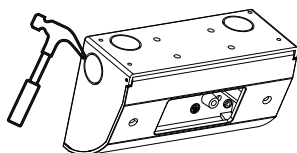

Fig. 1
1. Remove the knockouts as necessary to accommodate back-feed wiring (Fig. 1):